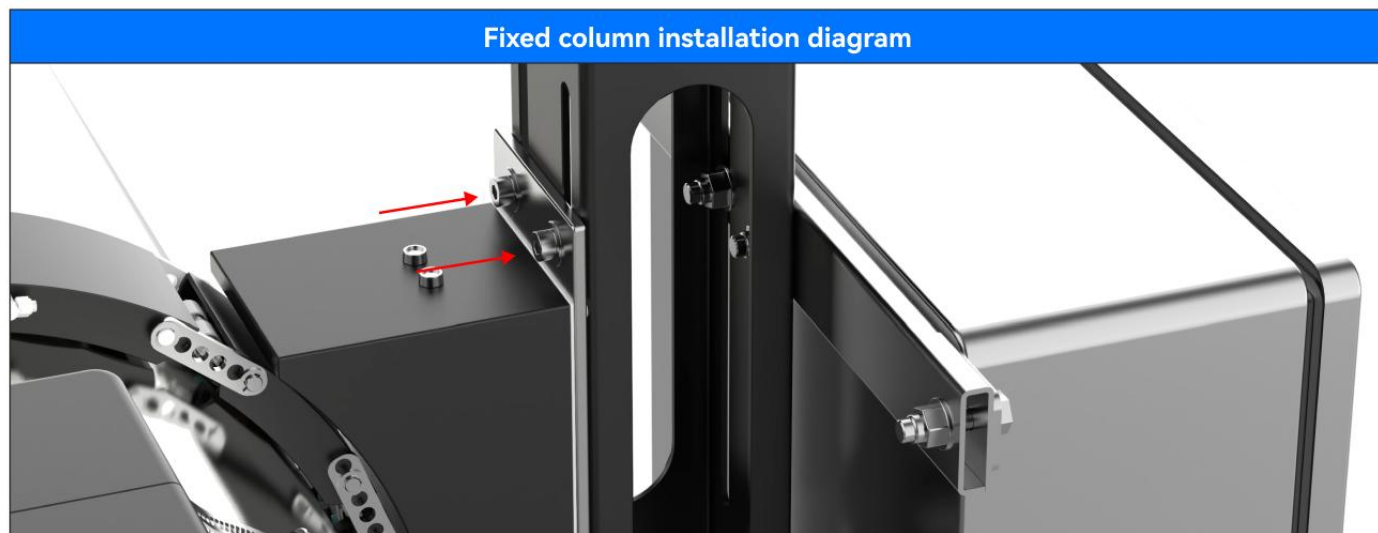

Figure 3.40
5. Completely tighten the stator mounting nuts and bolts to the mounting column and the M16 bolts on the base of the mounting column. The mounting column has large holes on both sides for easy access by tools, as shown in Figure 3.40.